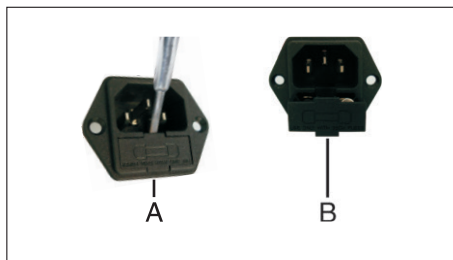

Fig.12
below the power socket and use it as a lever (Fig.12-Ref.A);
10.2 Pull out the fuse compartment(Fig.12-Ref.B);
10.4 Put the compartment back into place (Fig.12-Ref.B).